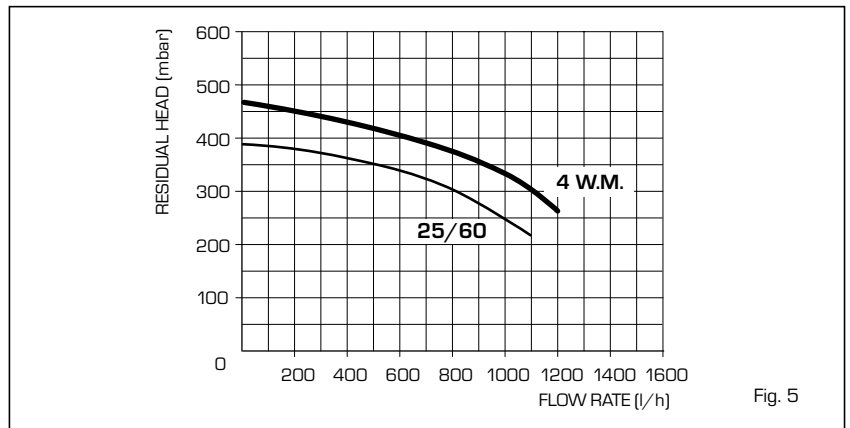

Fig. 5
- The available pump head is given in fig. 5.
- The appliance is equipped with an internal by-pass that operates with system heads (H) greater than 3,5 m. If thermostatic radiator valves are to be
The available head shown in fig. 5 is that in excess of the appliance hydraulic resistance, i.e. that available for the system at any given heating load up to the maximum output in C.H. mode. Never reduce the pump speed below maximum as this will reduce D.H.W. output. The pump speed is indicated on the side of the pump speed selector switch (if fitted).